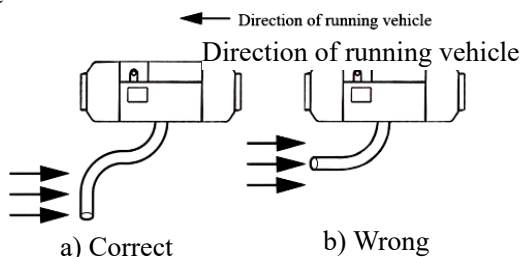

Fig.24
4.6.4 The openings of the pipes shall not be opposite to the direction of the running vehicle. (Fig. 24)